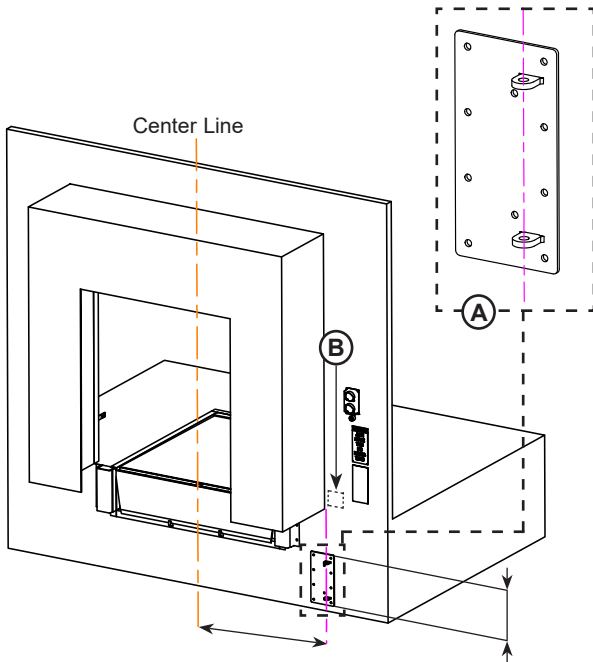

Figure 6
1. Position the wall mounting plate eyelets (**A**) at the distance referenced on the site survey, measured from the center line of the dock leveler. See **figure 6**.